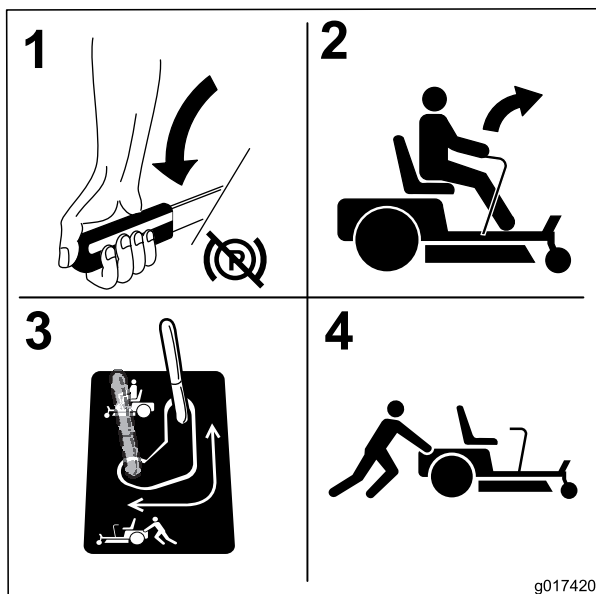

Figure 29
3. To push the machine, move the bypass levers rearward and out to lock them into place (Figure 29).
6. To run the machine, move the bypass levers to the forward position (Figure 29).